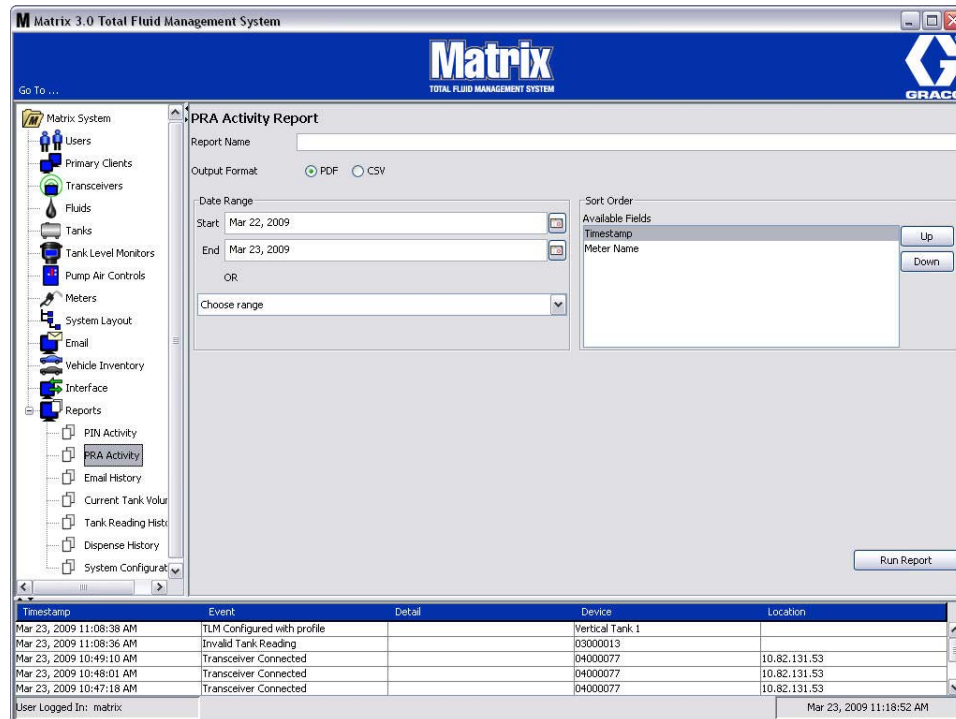

FIG. 188
- **PRA Activity Screen (FIG. 188)**